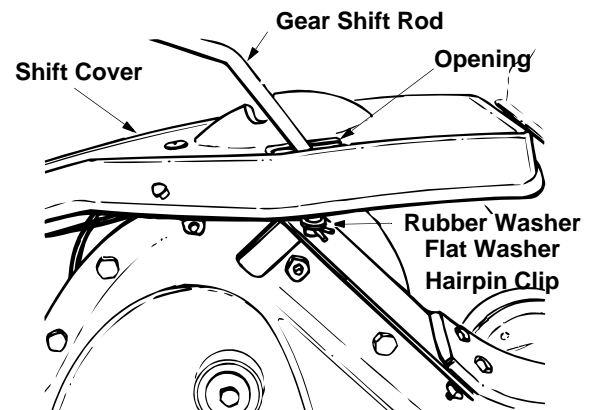

Figure 8
2. Insert the end of the gear shift rod through the opening in the top of the shift cover, and into the shift bracket. See Figure 8. Secure with rubber washer first, then flat washer and hairpin clip.